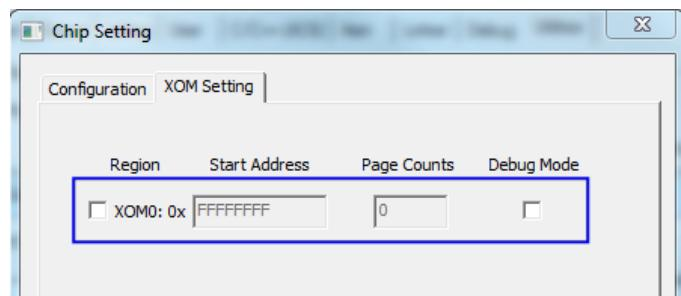

Figure 3-4 Keil® MDK XOM Setting
4. After entering the “M251 Settings” page, select “XOM setting” page to enter XOM setting page, as shown in Figure 3-4.